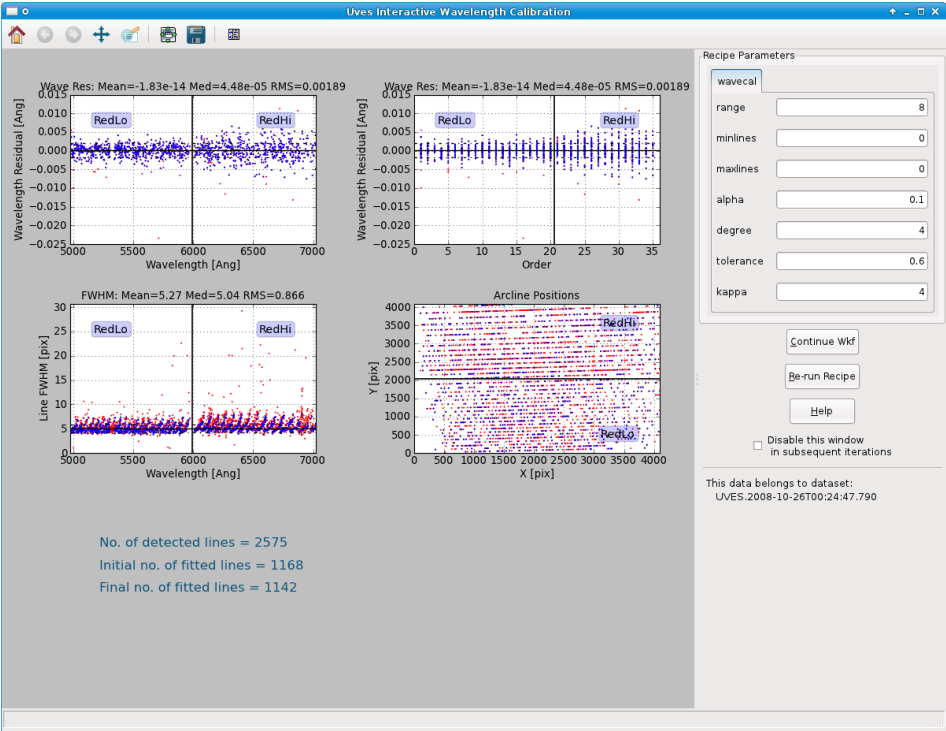

Figure 7.2: The interactive window for the Wavelength Calibration actor for the first DataSet in the data supplied with Reflex 2.9.
11. **Wavelength Calibration:** The next interactive window that will appear (see Figure 7.2) is associated with the execution of the `Wavelength Calibration` actor, which executes the UVES pipeline recipe `uves_cal_wavecal`. This pipeline recipe determines the wavelength calibration solution from an appropriate arc-lamp frame and a line reference catalogue. The top two plots in the interactive window show the wavelength calibration residuals for arc lines that were identified in the input line reference catalogue as a function of wavelength and spectral order. Blue points represent arc lines that were used in the final solution, and red points represent arc lines that were excluded from the final solution. The bottom-left plot shows the arc line FWHM as a function of wavelength, and the bottom-right plot displays the positions of all detected arc lines on the detector.